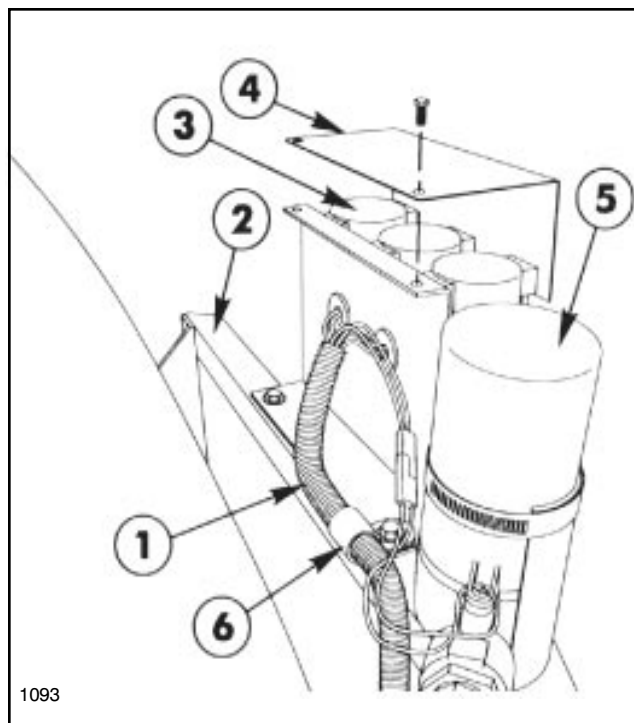

FIG. 15
1. Route the Flow Control Cable up, along the left Boom Mount, and across the Cross Support Angle, to make connections to Motorized Control Valve and Solenoid Valves. See FIG. 15.
2. Feed the wires through the two (2) Grommets in the Solenoid Mounting Bracket. Connect the black wire on left solenoid, brown on middle solenoid, blue on right solenoid and a white jumper on all three solenoids. See FIG. 15.
4. Install Solenoid Valve Shield to top of Solenoid Mounting Bracket and secure with two (2) 1/4" x 3/8" flange hd. screws.